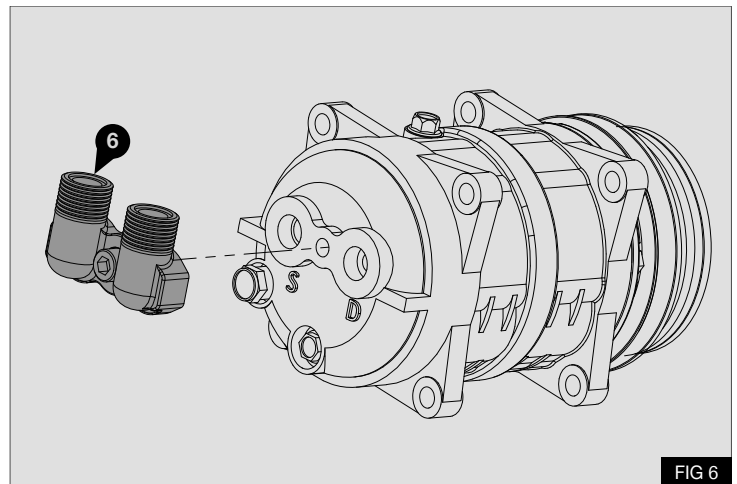

FIG 6
10. Install the supplied manifold (6) to the compressor - Fig 6